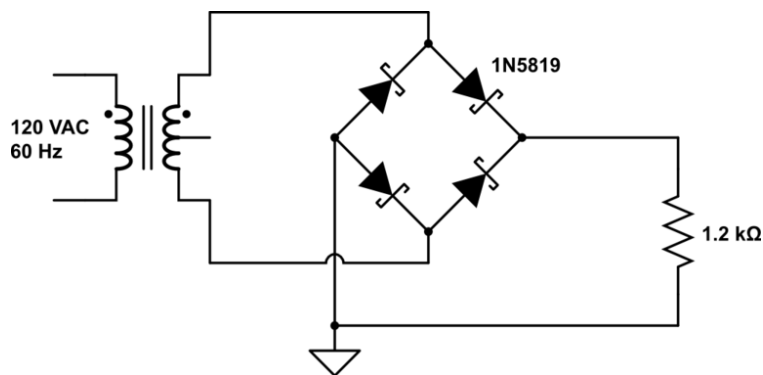

Figure 5: Full wave rectification using a bridge rectifier circuit
- Construct the circuit in figure 5 and take a picture of the voltage across the load resistor.